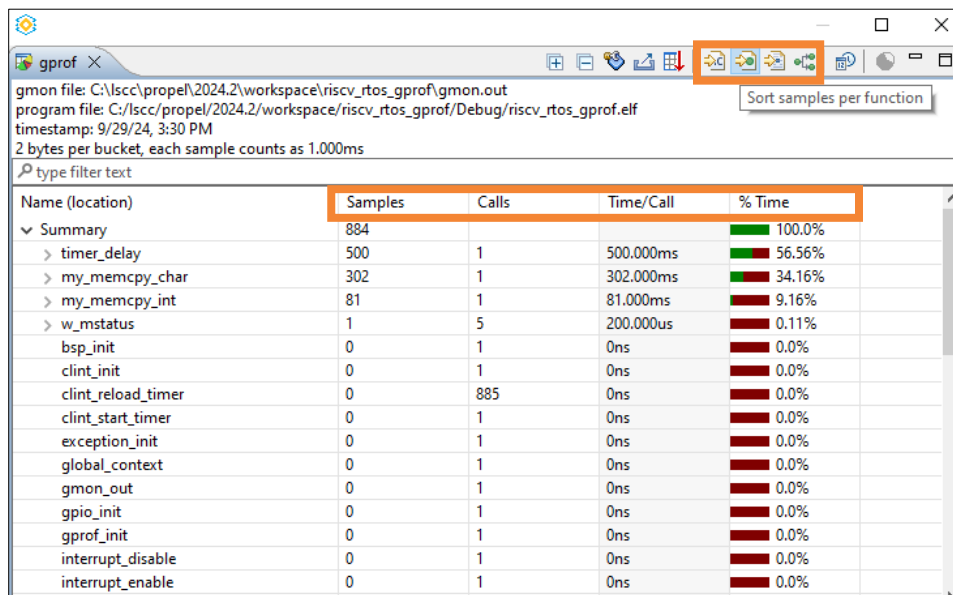

Figure 7.4. gprof Viewer 1
2. Wait for a few minutes. The gprof Viewer opens (Figure 7.4).
You can click the icons in the gprof Viewer to change the display style, such as **sort samples per function** (Figure 7.4).